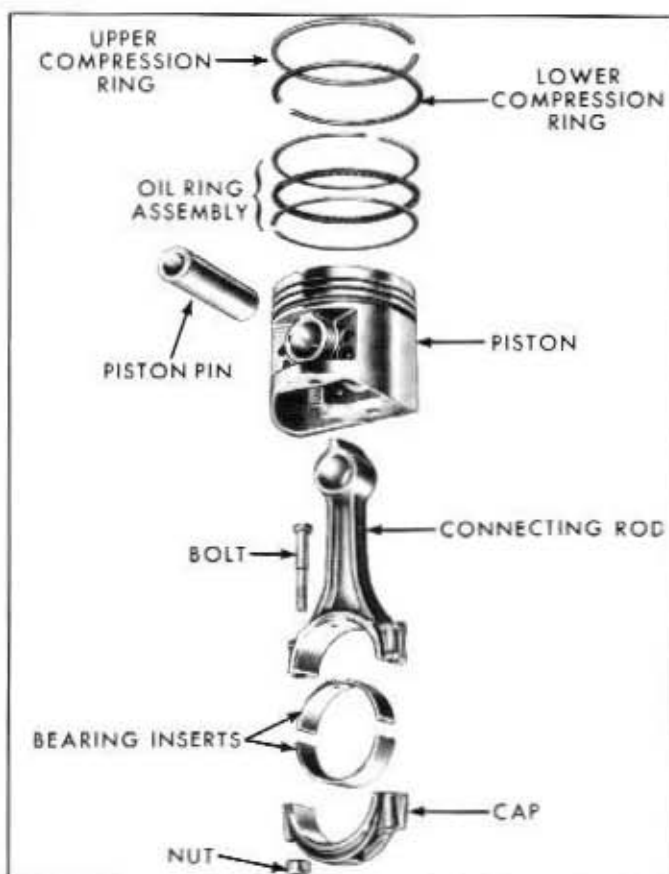

Fig. 6A-45—Piston, Connecting Rod, and Related Parts—(60C-5645)
91. The piston, connecting rod, and related parts are shown in figure 6A-45.